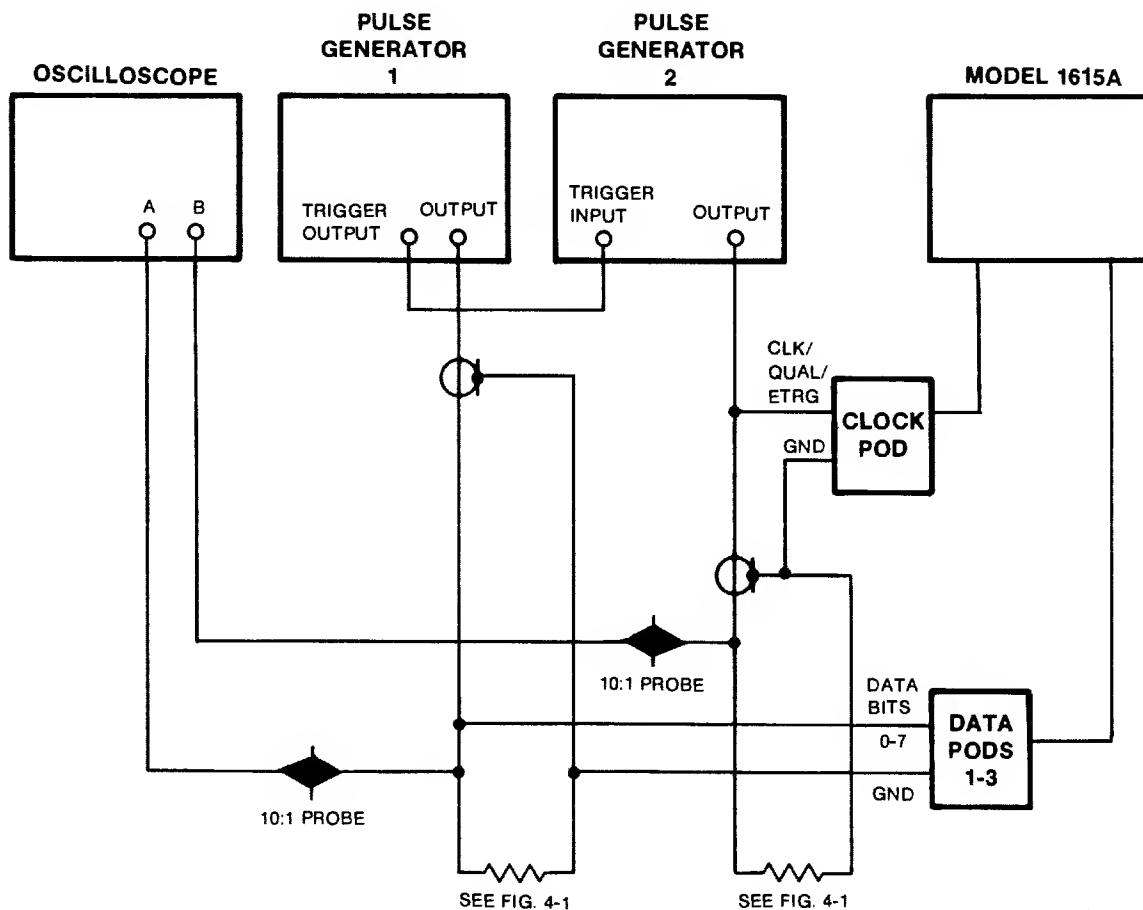

Figure 4-2. Clock, Qualifier, and Data Inputs Test Setup
- Connect pulse generators and oscilloscope to 1615A as shown in figure 4-2. Connect all inputs of clock probe and probe pod 1 to their respective signal sources. Connect probe pods 2 and 3 to Model 1615A but do not apply signals to these probe pods.